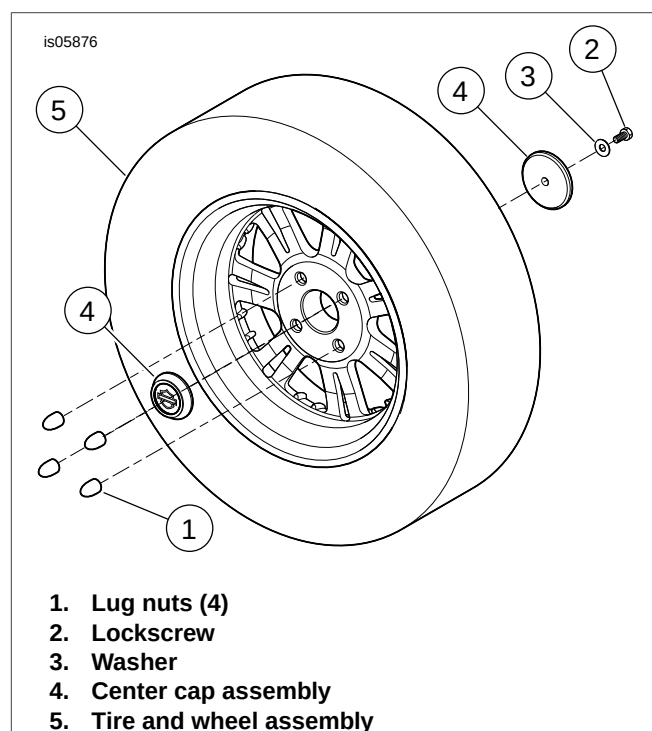

Figure 1. Removing Tire and Wheel Assembly
4. Refer to the service manual. See Figure 1. Remove the lug nuts (1) and the tire and wheel assembly (5) from the motorcycle.
5. Remove the lockscrew (2) and washer (3) from the center cap (4) assembly. Discard lockscrew, washer and center cap assembly.